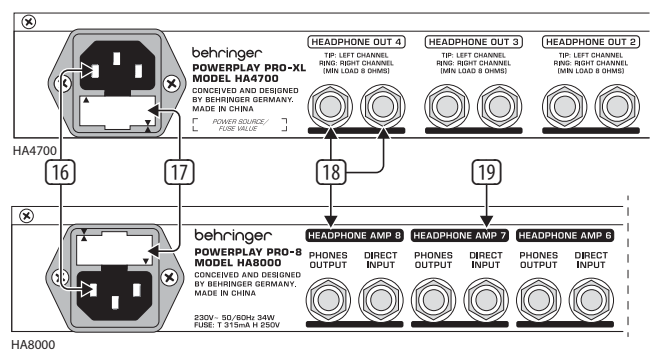

Fig. 2.3: Mains supply, fuses compartment and headphone outputs
- 1 The DIRECT IN socket is used to feed in additional stereo signals. In the case of the HA4700, the signal brought in via the DIRECT IN input has the same priority as the MAIN signal. The HA8000 has a separate DIRECT INPUT connector for each channel (14) (see fig. 2.3). In the case of this model, the MAIN signal being fed in is automatically interrupted when the said input is in use.